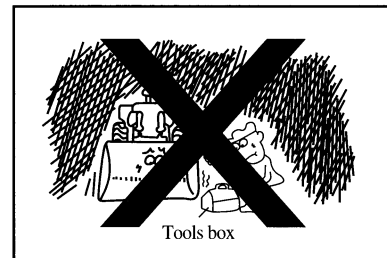

Figure1-30
- Battery can produce out explosive gas, so don't let smoking and fire approach the battery. Maintain the batteries according to Operator's Manual strictly. (Figure 1-30)